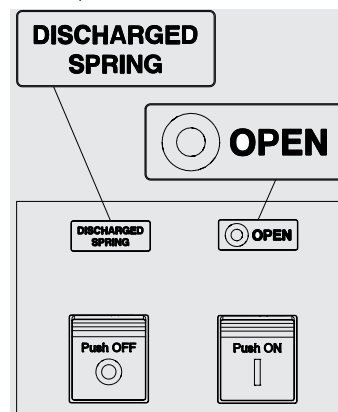

Figure 49
1. Circuit-breaker open with springs discharged (see Figure 49).